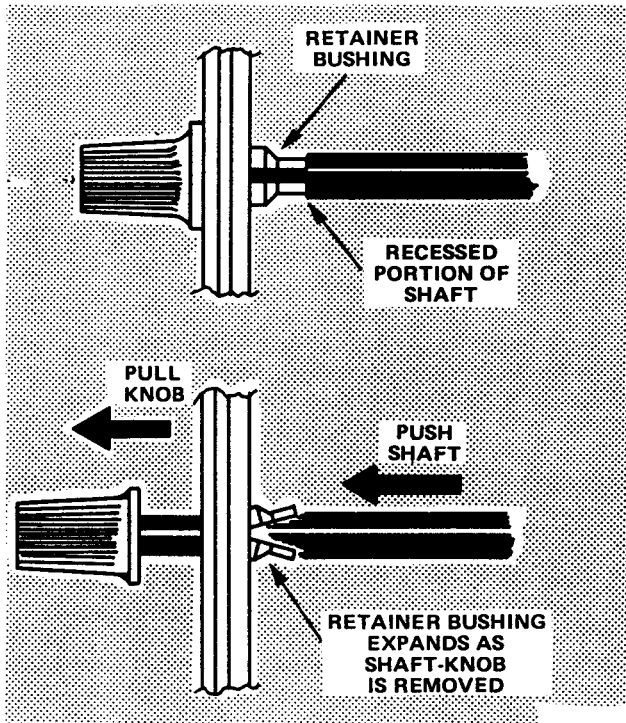

Figure 5-9. Shaft-knob removal.
(8) Carefully pull crt out of shield (watch horizontal deflection leads).
(9) Reinstall the crt in reverse order.
**h. Shaft-Knob Removal (Figure 5-9).**
(1) Grip knob end with one hand and shaft with other hand.
(2) Pull on knob, while pushing on shaft, to free recessed portion of shaft from retainer bushing. Some shaft-knobs may require considerable force to remove.
(3) Replace the shaft-knob in reverse order.